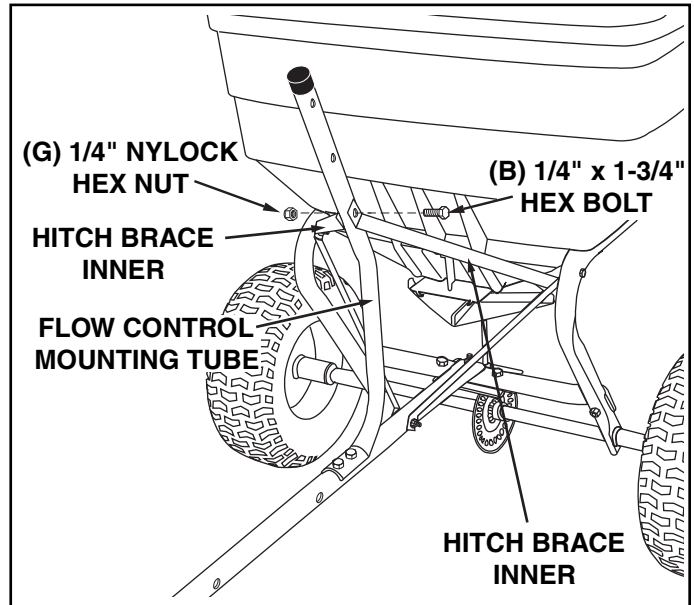

FIGURE 6
15. Assemble the two **inner** hitch braces to the flow control mounting tube using a 1/4" x 1-3/4" hex bolt (B) and a 1/4" nylock hex nut (G). **DO NOT TIGHTEN YET**. See figure 6.